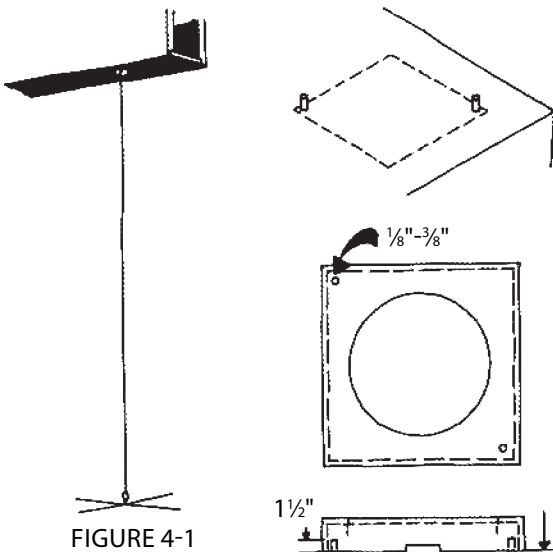

FIGURE 4-1
1. Mark the column location desired in the side-to-side center of the soffit. Then drop a plumb line from that mark to the deck for shaft centerline (Fig 4-1).